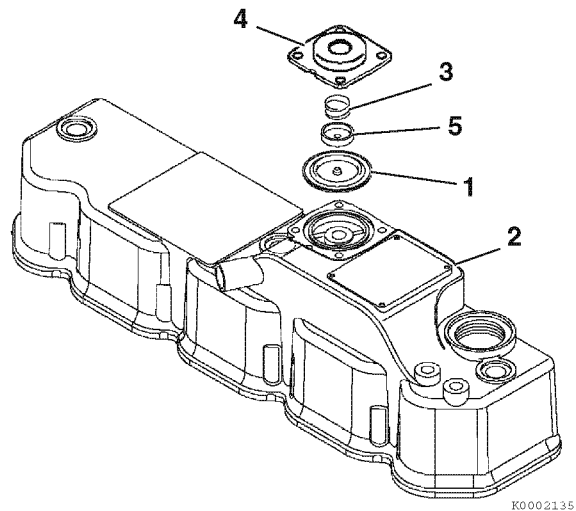

Figure 5-17
For engines with intake reduction specification, the crankcase breather structure uses a bonnet (2, **Figure 5-17**) with a spring (3, **Figure 5-17**), and a diaphragm (1, **Figure 5-17**), etc.
To inspect the diaphragm and spring (3, **Figure 5-17**):
1. Remove the bolts retaining the diaphragm cover (4, **Figure 5-17**).
2. Remove the diaphragm cover, spring, diaphragm plate (5, **Figure 5-17**) and diaphragm.